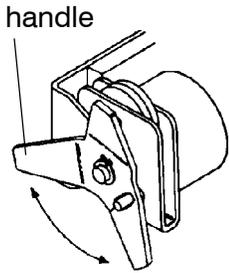

Figure 1-4.
- 30 – 150 amp. C–design*                      See Figure 1-4.